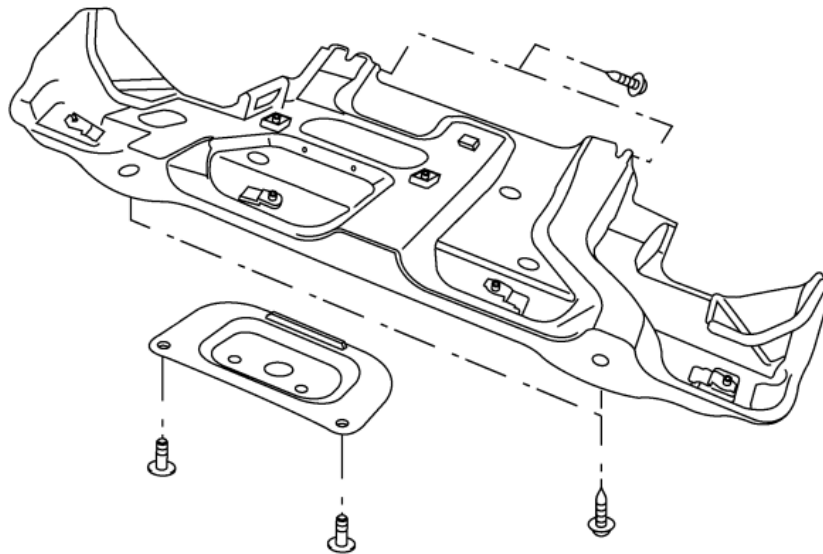

Figure 5
10. If equipped, remove the Splash Shield from the underside of the vehicle. *Figure 5.*